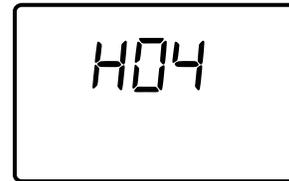

Figure 14-6: Home Screen with Error
6. If there is a problem, display will show error code (Figure 14-6). Refer to label on access door and Section 18 Troubleshooting to diagnose error.